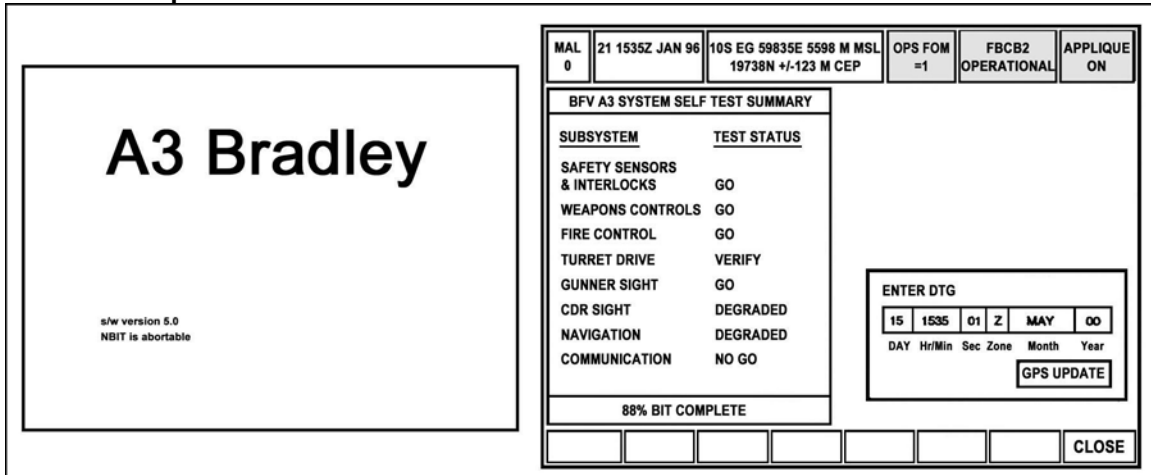

Figure 2. Start up screen.
- b. Enter the appropriate vehicle password by using the commander's data entry tool (CDET) and the cursor control function on the commander's hand station (CHS)(Figure 2).